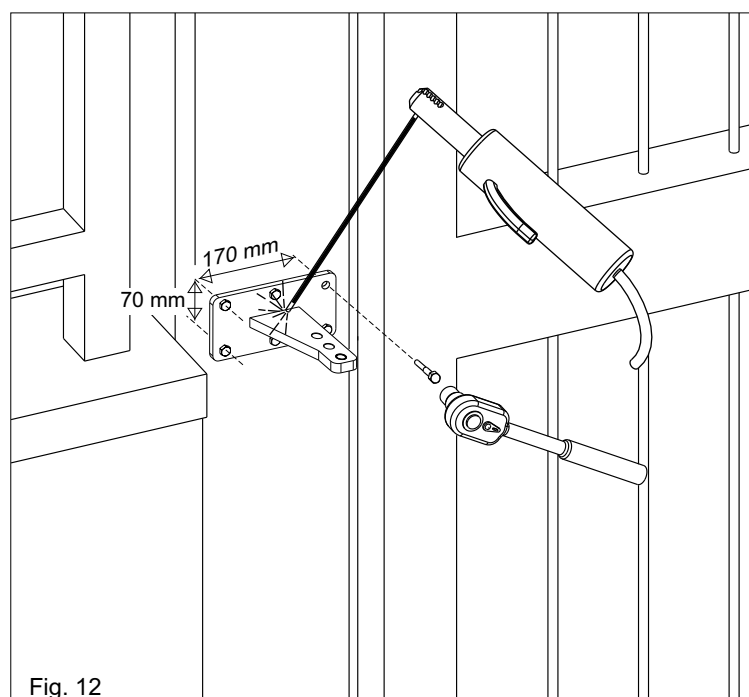
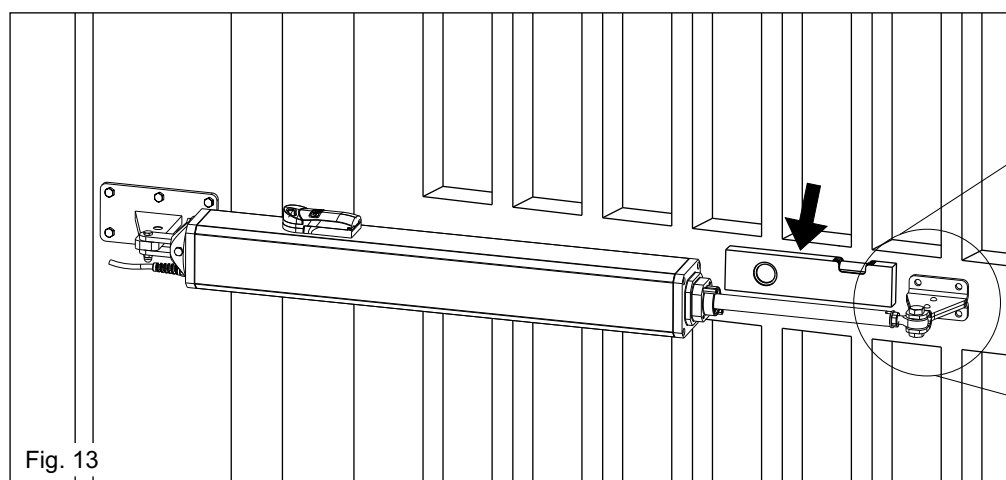

Fig. 12
Fig. 13
The rear bracket must first be cut respecting the quote "a" on pag. 17 and then welded as in fig. 12.
The support must be positioned so that the operator is perfectly levelled (Fig. 12, Fig. 13).
4. Set the operator perfectly levelled and mark the position of the front bracket (Fig. 13).